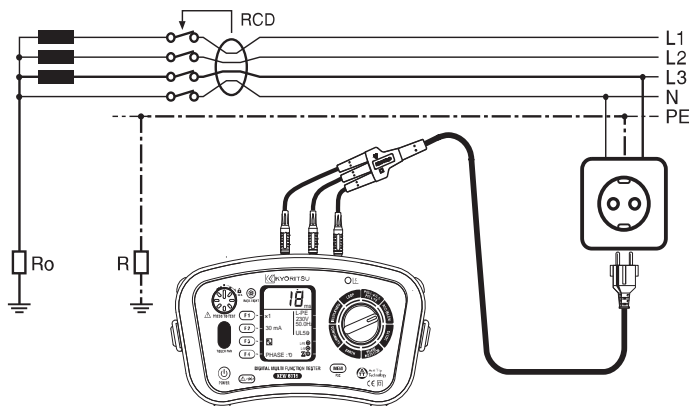

Fig.35
Ground being imperfect in the Fig35, when R exists, when a fault current flows to R, electric potential occurs. There is a possibility the person contacting in this imperfect ground, it calls the voltage, which it occurs in the human body of this time, called U_c .
2. Connect the test leads to the circuit to be tested. (Fig.35, 36, 37)